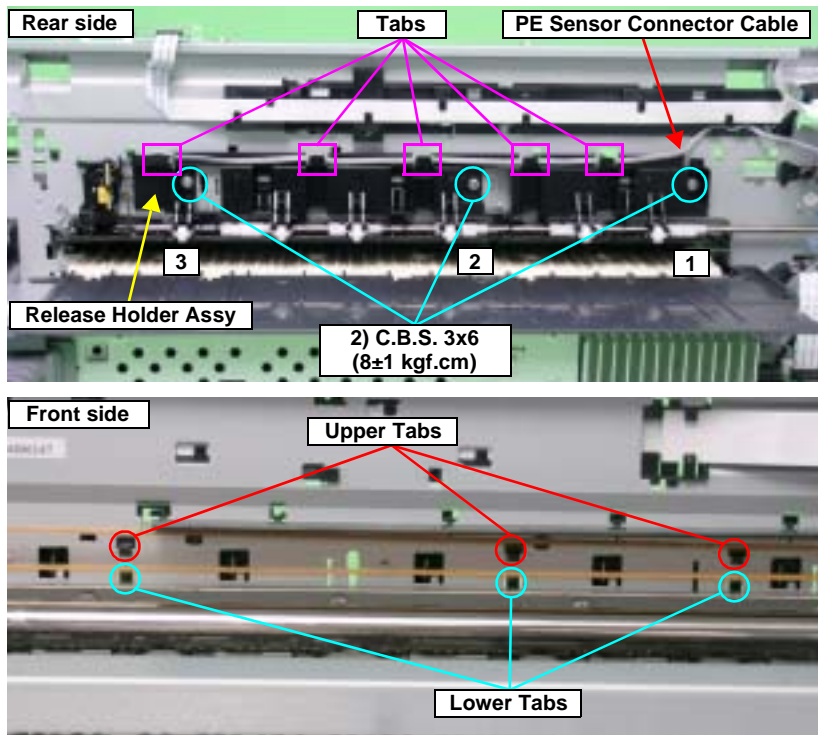

Figure 4-105. Removing the Release Holder Assy
- Align the three Upper Tabs on the Release Holder Assy with the positioning holes on the Main Frame. See Figure 4-105.
- Tighten the screws in the order shown in Figure 4-105.